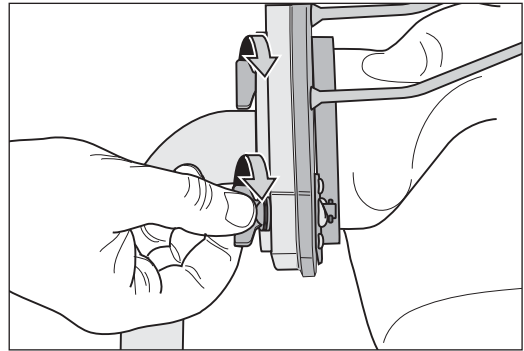

Fig. 4 Secure the dust bag using the quick-release fasteners.
- 6 Attach the dust bag to the locating flange using the two quick-release fasteners (Fig. 4).